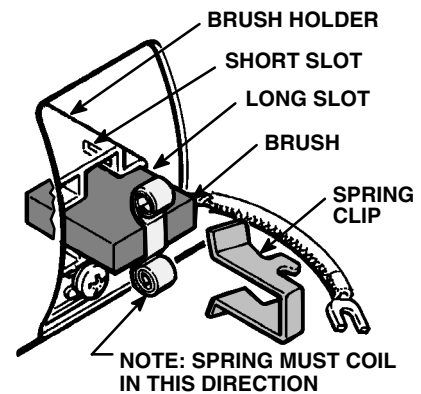

Fig 25-4
6. Place a new brush in the holder so the lead is in the long slot of the holder. Slide the terminal under the terminal screw washer. Make sure the motor lead is still connected at the screw. See Fig 25-4.
7. Place the spring on the brush as shown in Fig 25-4. If the spring is installed backwards, it will be damaged when the spring clip is installed.
8. Install the spring clip and push it down until its hooks catch the short slots in the housing. See Fig 25-4. Incorrect installation may jam the clip.